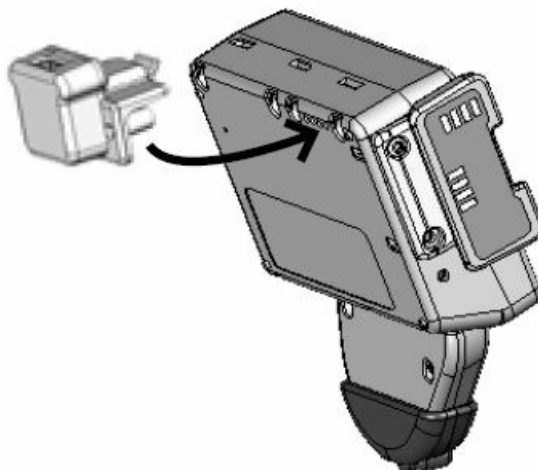

Figure 9. A schematic of how the USB converter connects to the DP II handheld device (taken from the DP II User Manual, Haglöf Sweden AB).
- Place the USB converter on the DP II handheld device or SmartScale and use a microUSB to USB cord to connect to a power source (Fig. 9).